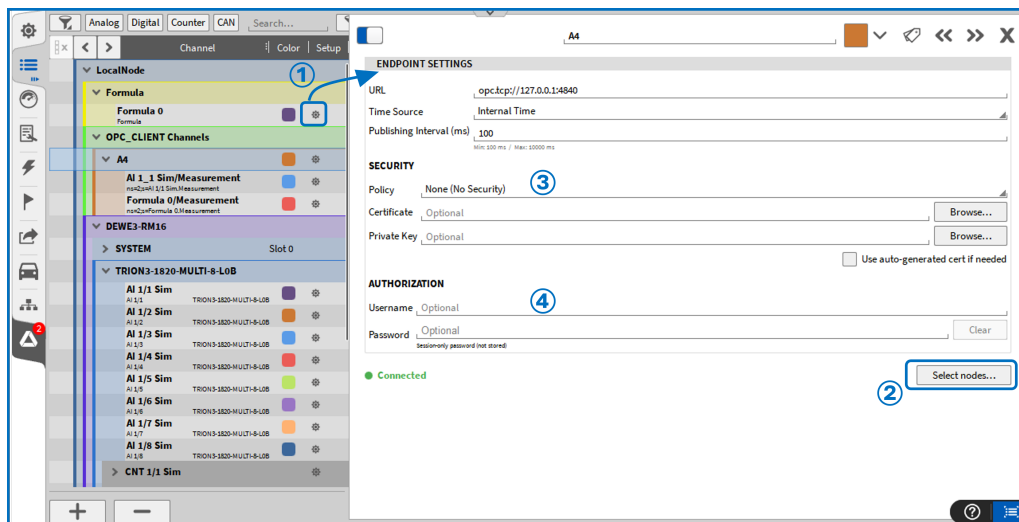

Fig. 5.2: OPC UA Client settings
Once added, the OPC UA Client will appear as a new section in the OXYGEN channel list (See Fig. 5.2).
To modify an existing OPC UA Client, click the gear icon (See ① in Fig. 5.2) in the OXYGEN channel list. You can update the Name, URL, Time Source, and Publishing Interval at any time.
Security settings (See ③ in Fig. 5.2) follow the standard OPC UA protocol. The client automatically queries the server for available endpoints and security policies. If a previously selected policy is no longer supported by the server, it will be flagged in the interface.
Two authentication modes are available (See ④ in Fig. 5.2):
After configuring the server, click *Select Nodes* (See ② in Fig. 5.2) to choose the channels for subscription. Data acquisition is managed via the standard OPC UA subscription mechanism.